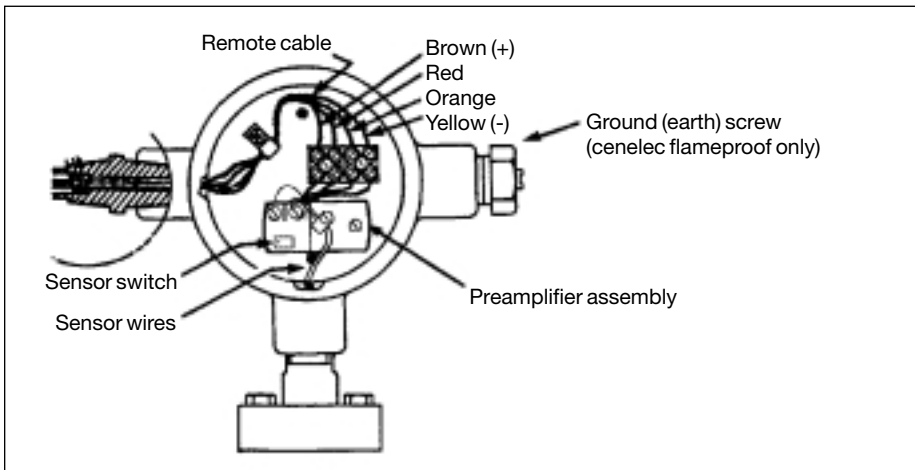
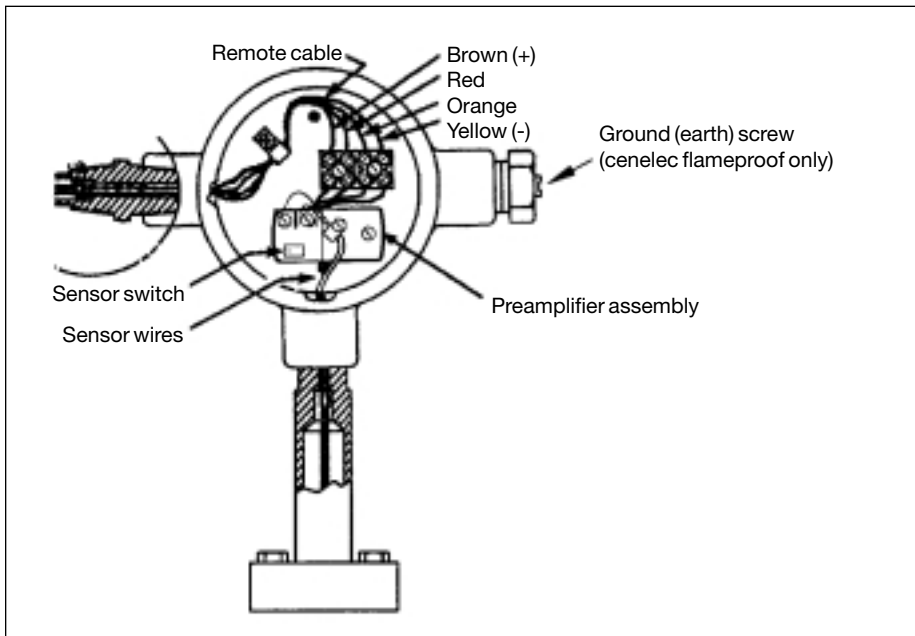

Figure 34: Flowtube/Junction Box - Standard Temperature Range
Figure 35: Flowtube/ Junction Box - Extended Temperature Range
- Standard Temperature Range Sensor: Loosen strain relief clamp. Disconnect yellow and brown sensor leads from terminal block. See Figure 34.
- Extended Temperature Range Sensor: Disconnect brown and yellow sensor lead from terminal block on preamplifier. See Figure 35. (For CENELEC Certified Flameproof VFM 3100, remove preamplifier shield and then disconnect the sensor leads from preamplifier.)
- Connect the sensor wires to the color coded terminals as shown in Figure 34 for the Standard Temperature Range sensor and in Figure 35 for the Extended Temperature Range sensor.